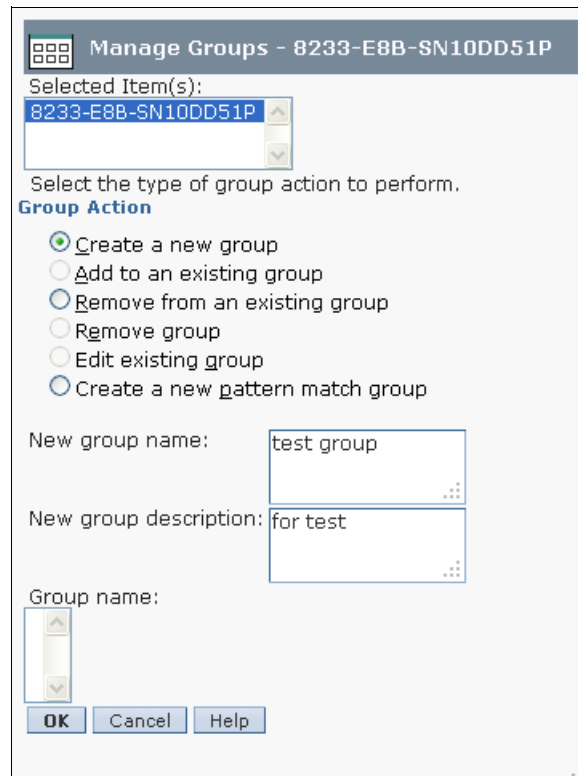

Figure 5-21 Manage Custom Groups task
3. Select **Create a new group**, specify a group name and description, and then click **OK**, as shown in Figure 5-21.